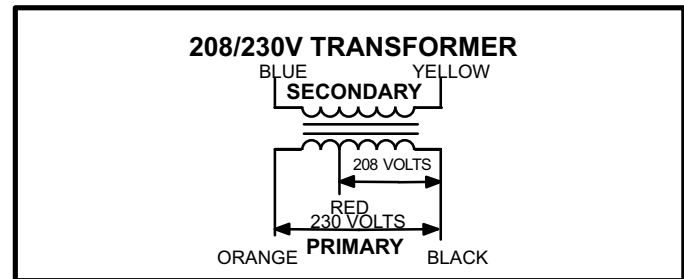

FIGURE 7
All use a single line voltage to 24VAC transformer mounted in the control box. Transformer supplies power to control circuits in the unit. The transformer is rated at 70VA and is protected by a 3.5 amp circuit breaker (CB8). The 208/230 (Y) voltage transformers use primary voltage taps as shown in figure 7, while 460 (G) and 575 (J) voltage transformers use a single primary voltage tap.